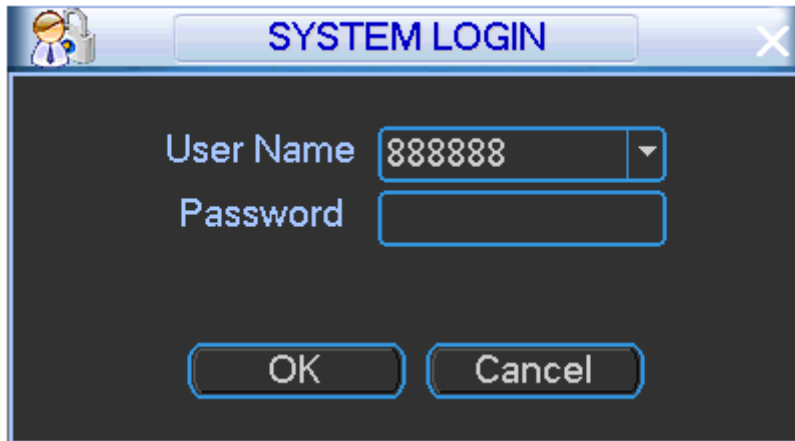

Figure 4-19
Step 1 On the preview window, right click mouse, and the select main menu, system pops up login dialogue box. See Figure 4-19.